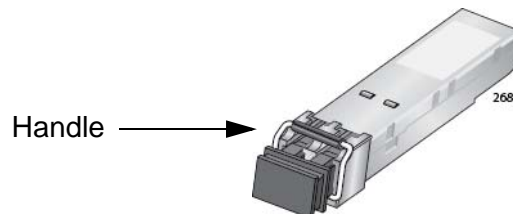

Figure 176. Handle on the AT-StackOP/0.3 and AT-StackOP/9.0 Transceivers
2. Orient the stacking transceiver with the handle on top if you are installing it in slot 1 or 3, or with the handle on the bottom for slot 2 or 4. Refer to Figure 176.